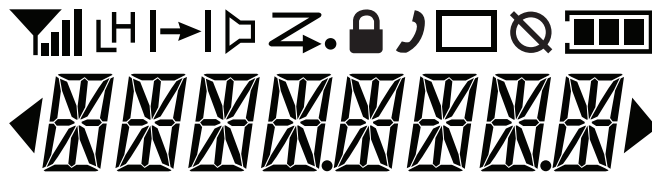

Figure 4-1. LCD Indication
2. Turn on the radio and immediately press **P3** 3 times. The LED turns solid amber. The LCD displays the following indication (Figure 4-1) and the backlight is activated.